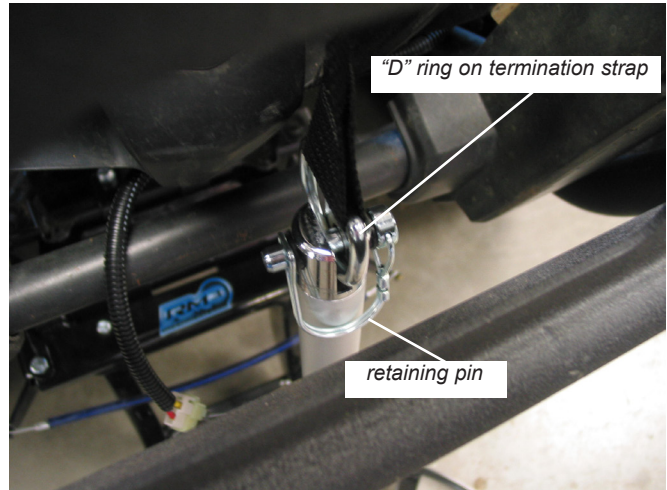

Figure 12
1. This actuator has been designed to lift the plow with a direct line termination. It must be fully extended to determine termination point and strap length. With the actuator fastened to the plow, the shaft terminates to the D-ring in the termination strap via a 3/8" pin as shown in Figure 12.